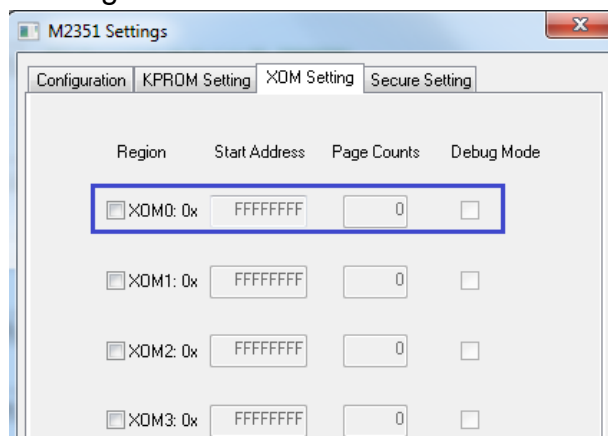

Figure 4-8 Check XOM Status
11. Click “Refresh” button then re-enter “XOM setting” page to check XOM configure status, as shown in Figure 4-8.